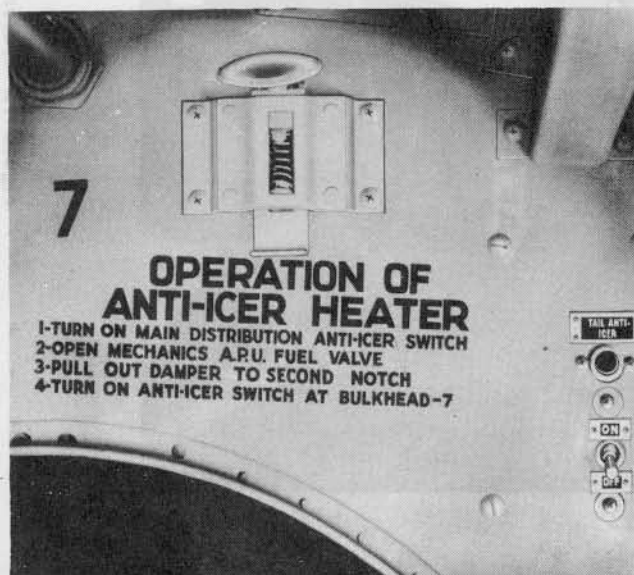
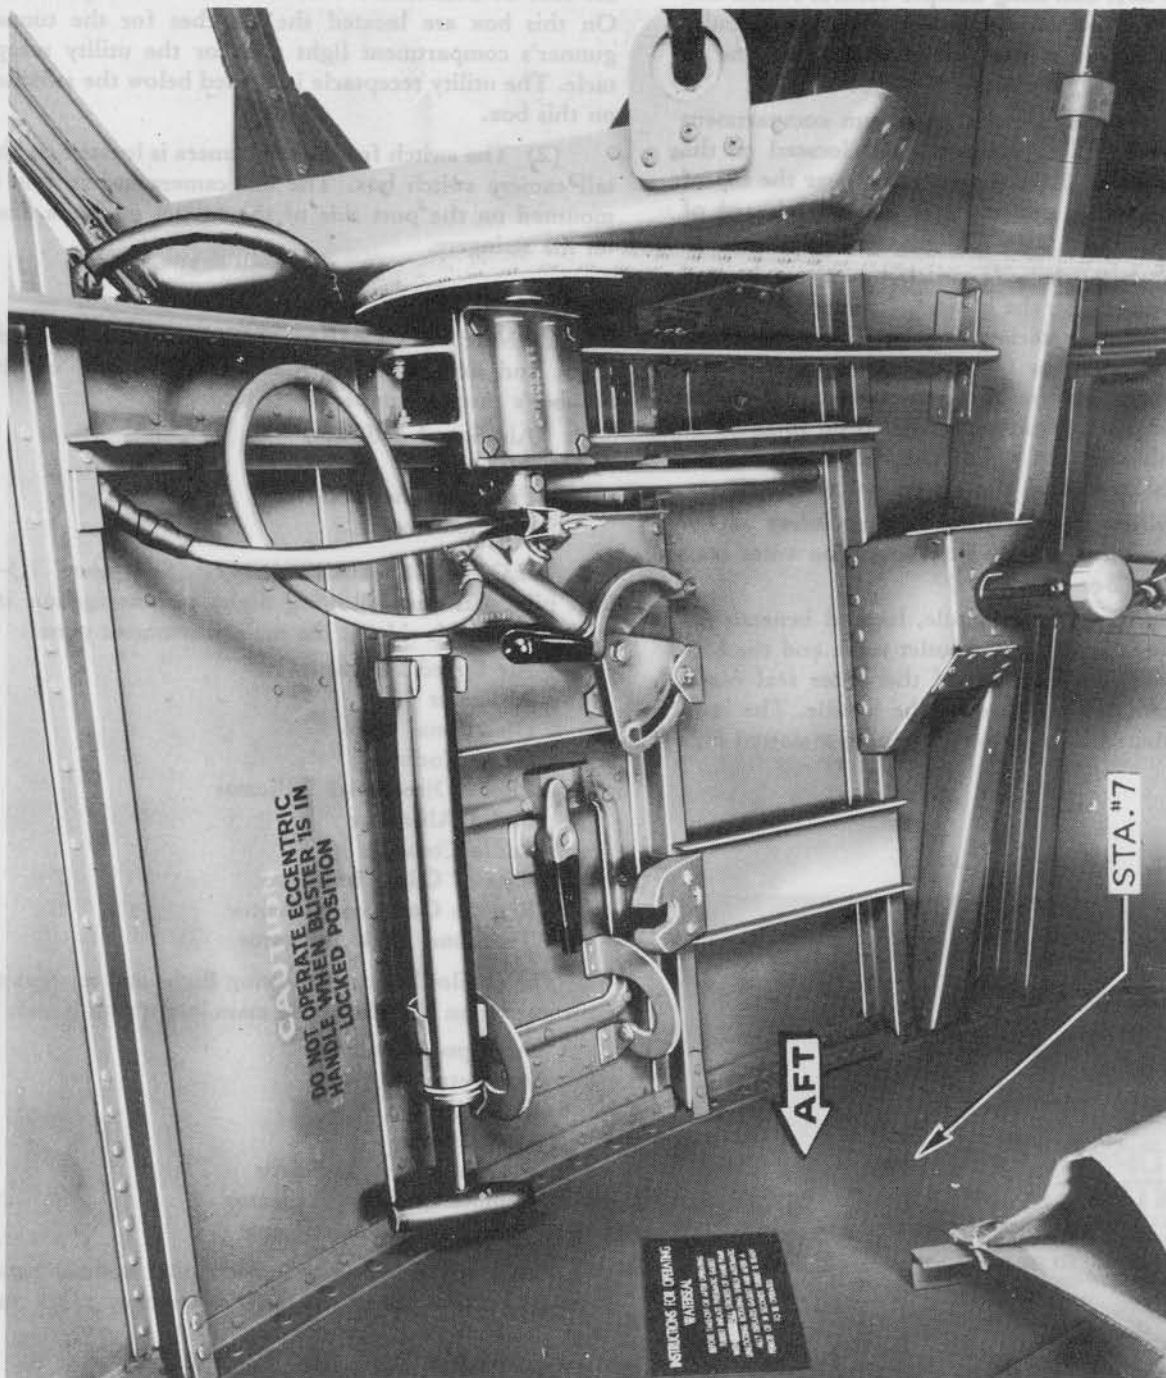

Figure 12—Tail Anti-Icer Controls
Figure 13—Waterseal Inflation Mechanism for Waist Gun Blister
(1) The heat anti-icing damper control switch and indicator light is located on the forward side of bulkhead 7 above the door, just left of the center line of the airplane. (See figure 12.)
(2) The switches for the waist gun compartment light and for the utility receptacle are located on the aft side of bulkhead 6, on the port side near the top of the door. The utility receptacle is located inboard of these switches.
(3) The waist gunner's switch boxes are located on the longerons below the blisters, forward of the gun mounts on port and starboard sides. On these boxes are located the switches for the continuous feed motors and the switches for the gun-camera receptacles. A push button circuit breaker is located on these boxes for the illuminated gun sight. The receptacle for the gun-camera is located on the aft end of each box.
(4) A blister pump, located immediately aft of each waist gun blister, is used to inflate the water seals of the blisters. (See figure 13.)